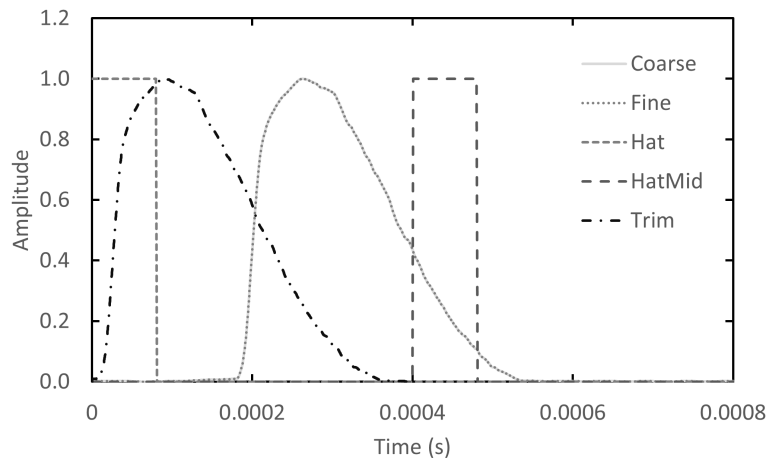
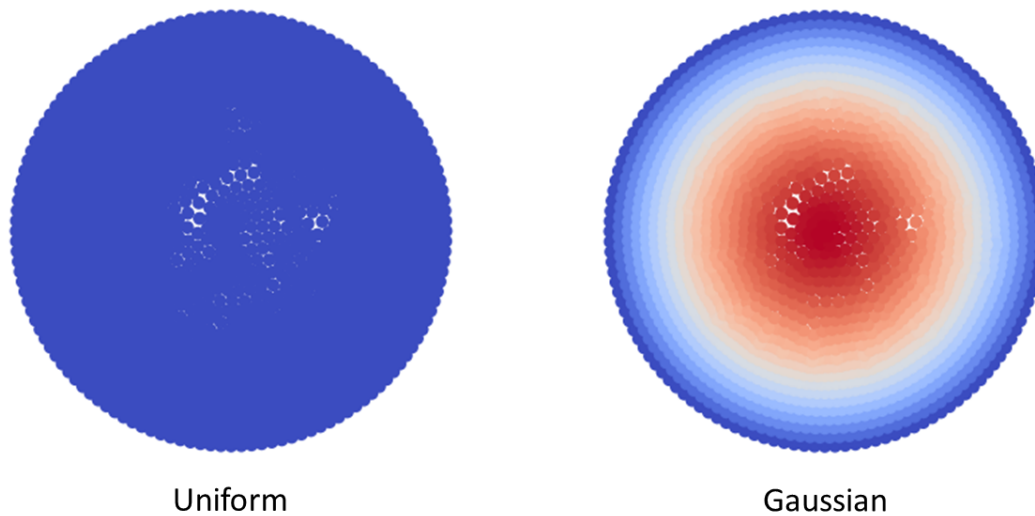

Fig. 6.7: Plot of various laser temporal profiles available.
Fig. 6.8: Plot of laser spatial profiles available.
*Energy* dictates the energy (J) that the laser will provide to the sample. The temporal profile of the laser is defined by *LaserT*, where the different profiles can be found in Scripts/Experiments/LFA/Laser, see Fig. 6.7. ‘Coarse’, ‘Fine’ and ‘Trim’ are versions of experimentally measured data whereas ‘Hat’ and ‘HatMid’ are idealised profiles. The spatial profile, *LaserS*, can be either ‘Uniform’ or ‘Gaussian’, see Fig. 6.8.